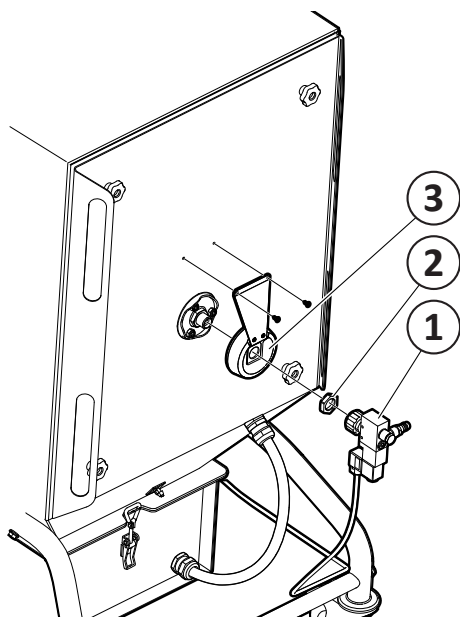
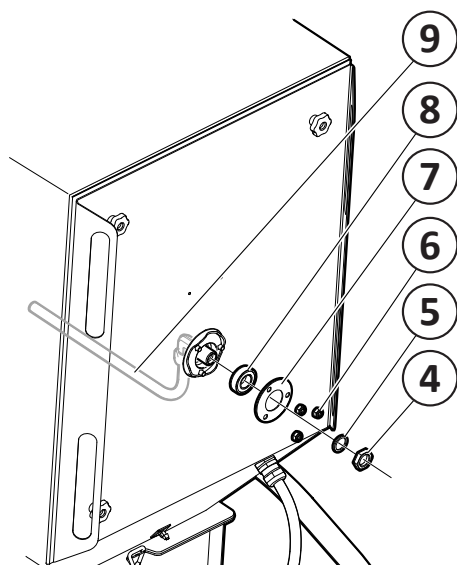

Fig. 18
Fig. 19
1. Unscrew the compressed air valve (1, Fig. 18).
2. Unscrew the nut (2).
3. Unscrew the contact guard (3).
4. Unscrew the nut (4, Fig. 19) for nozzle (9) and remove the washer (5).
12. Refit the contact guard (3, **Fig. 18**), nut (2) and compressed air valve (1).